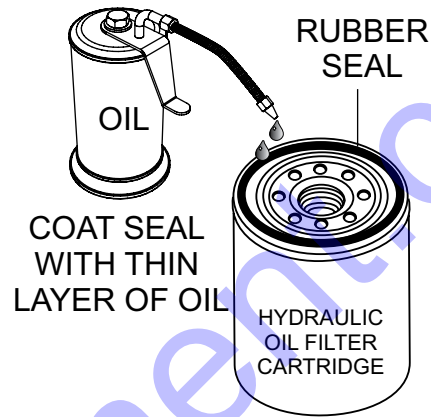

Figure 10. Preparing Hydraulic Oil Filter
2. Coat the rubber seal (gasket) surface of the hydraulic oil filter (Figure 10) with clean 15W-40 engine oil.